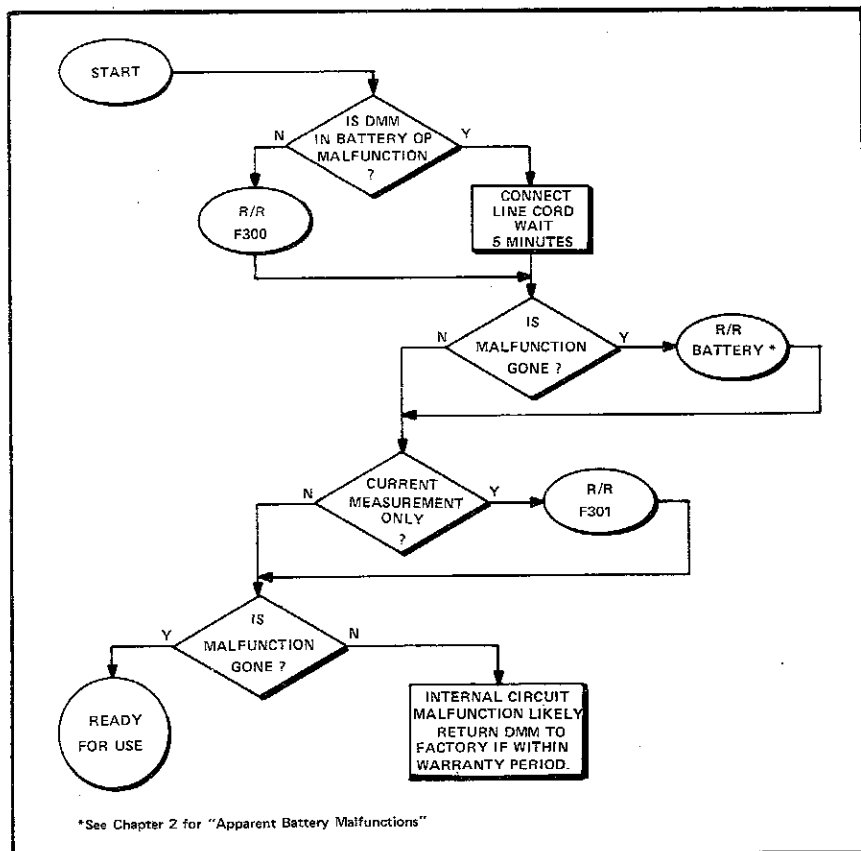

Fig. 5-2 Logic Sequence for Closed Case Trouble Shooting
Figure 5-2 illustrates the logical sequence to be followed in identifying a fuse or battery as the probable cause of any malfunction symptom.
Figure 5-2 indicates the location of circuit components that are accessible after removal of the analog shield.
support post for the analog shield as shown in Figure 3-1. See Figure 5-2 for designated test point location.
d. Check operation of AC/DC rms converter by observing output of Z8 for Model 2480; Z9 for Model 2480R. DC voltage should be 1 volt for 1VAC output of Z4-6. Check waveform shape to see that it is pure sinusoid. Output of ac/dc converter may be checked at switch S5 contact B4. (Figure 5-2).